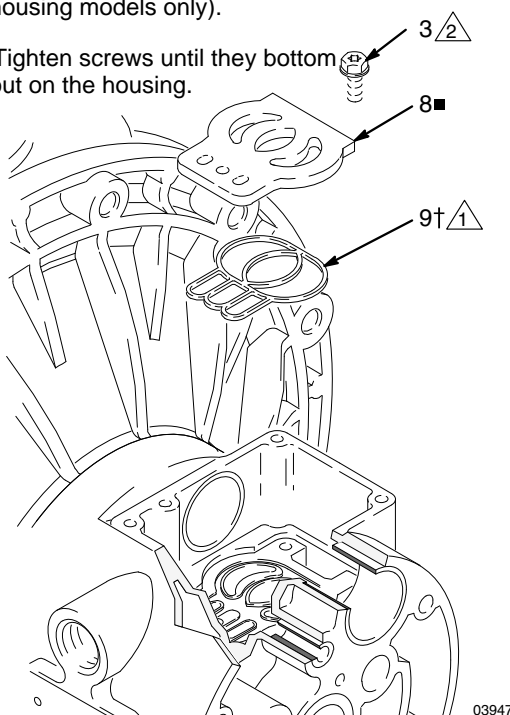

FIG. 9
5. Inspect the valve plate (8) in place. If damaged, use a Torx (T20) screwdriver or 7 mm (9/32") socket wrench to remove the three screws (3). Remove the valve plate (8) and, on aluminum center housing models only, remove the seal (9). See Fig. 9.
2. On aluminum center housing models, install the valve plate seal (9) into the groove at the bottom of the valve cavity. The rounded side of the seal **must face down** into the groove. See FIG. 9.
3. Install the valve plate (8) in the cavity. On aluminum center housing models, the plate is reversible, so either side can face up. Install the three screws (3), using a Torx (T20) screwdriver or 7 mm (9/32") socket wrench. Tighten until the screws bottom out on the housing. See FIG. 9.